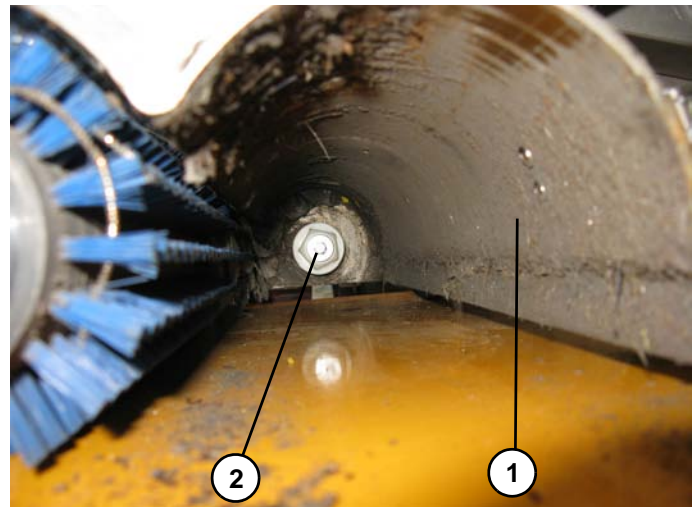

Figure 5-5
3. Wash and clean the cylindrical brushes cases too (1, **Figure 5-5**). Check that the drive hubs (2) of the cylindrical brushes are free from dirt debris or twisted objects (ropes, etc.).
5. The cylindrical brushes must be replaced for excessive wear and tear, when in the lowered brush condition, the lateral pins (1, **Figure 5-5**) lean on the lower ends (2) of the slots.